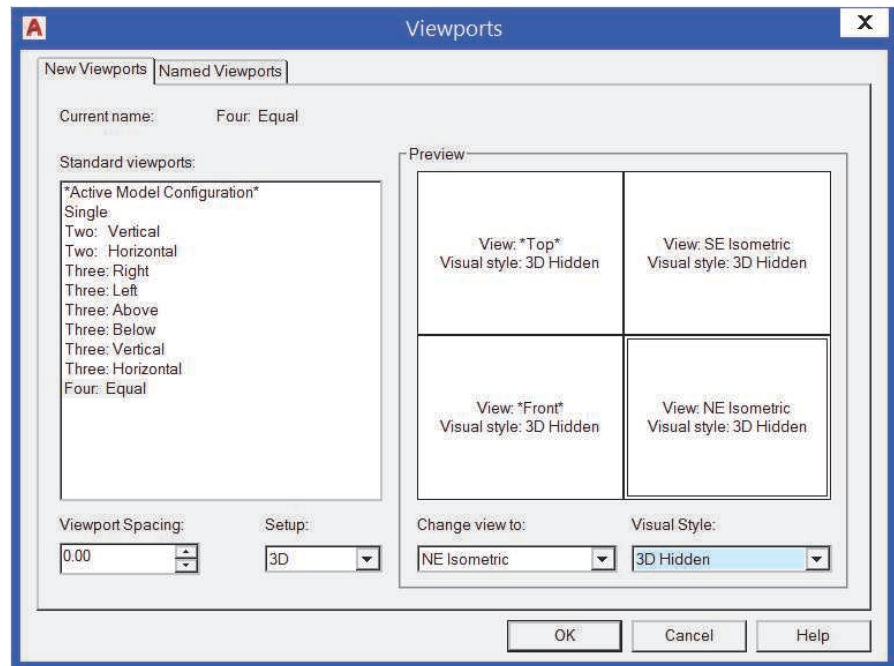

Figure 11–5
- In the *Preview* area, set the two viewports on the left to be **Top** and **Front** views and set the two viewports on the right to be two different **Isometric** views. Set all of them to use the **3D Hidden** visual style, as shown in Figure 11–5. Click **OK**.